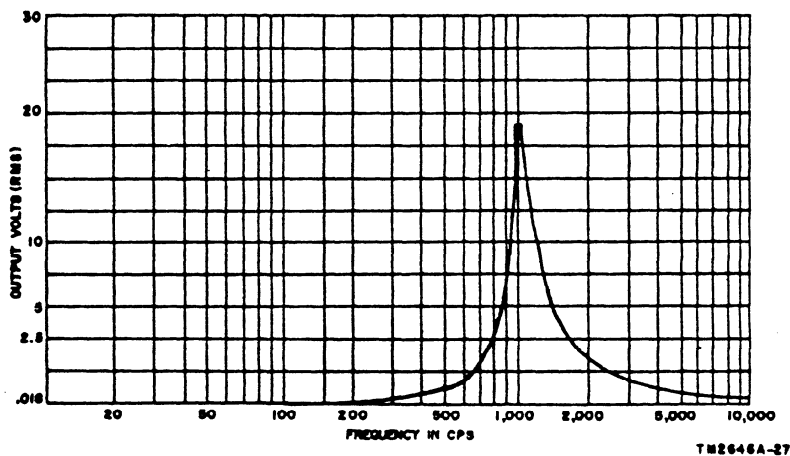

Figure 25. Amplifier circuit filter, response curve.
c. Filtering of the output of second stage amplifier V3B is provided by part of oscillator-filter assembly Z3. When the AMP. RESPONSE switch is in the PEAK position, the filter is coupled between the output plate load and grid circuits of second stage amplifier V3B. This filter provides a high gain at the oscillator excitation frequency of 1,000 cycles, and a high relative attenuation to signals above and below that frequency. The response curve for the filter at various frequencies is shown in figure 25.